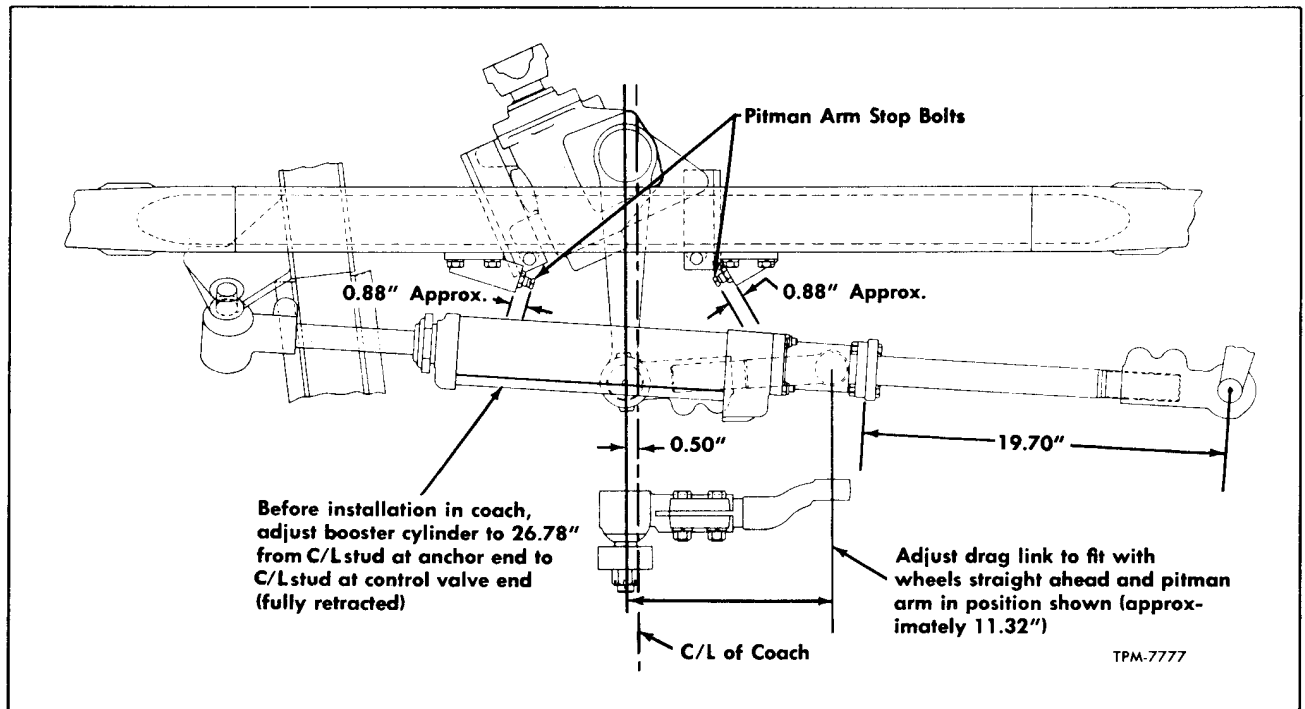

Figure 9—Power Steering Booster Cylinder Installation
4. Check length of cylinder extension and end socket assembly, measuring from center of end socket ball stud to flange of extension (fig. 9). Distance should measure 19.70". Adjust if necessary to obtain these dimensions.
10. Check position of Pitman arm on steering gear lever shaft as described previously under "Steering Gear Replacement." Front wheels must be positioned straight ahead. If steering gear Pitman arm is correctly positioned on shaft, centerline of hole at drag link end of Pitman arm will be 1/2" to the left of centerline of coach when viewed from the rear (fig. 9).